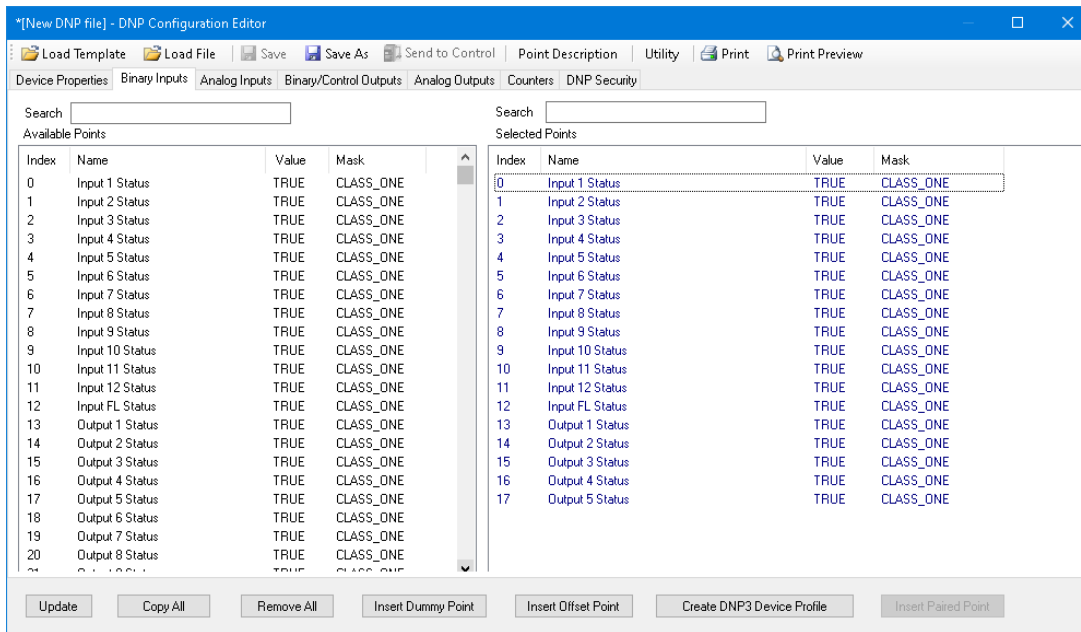

Figure 1-2 DNP Configuration Editor – Binary Inputs Tab
2. Select **Load Template/M-7651A Default** from the DNP Configurator menu bar. Select **Binary Inputs** tab, Figure 1-2 is displayed. The Available Points list for each DNP Points Group tab will also be populated.